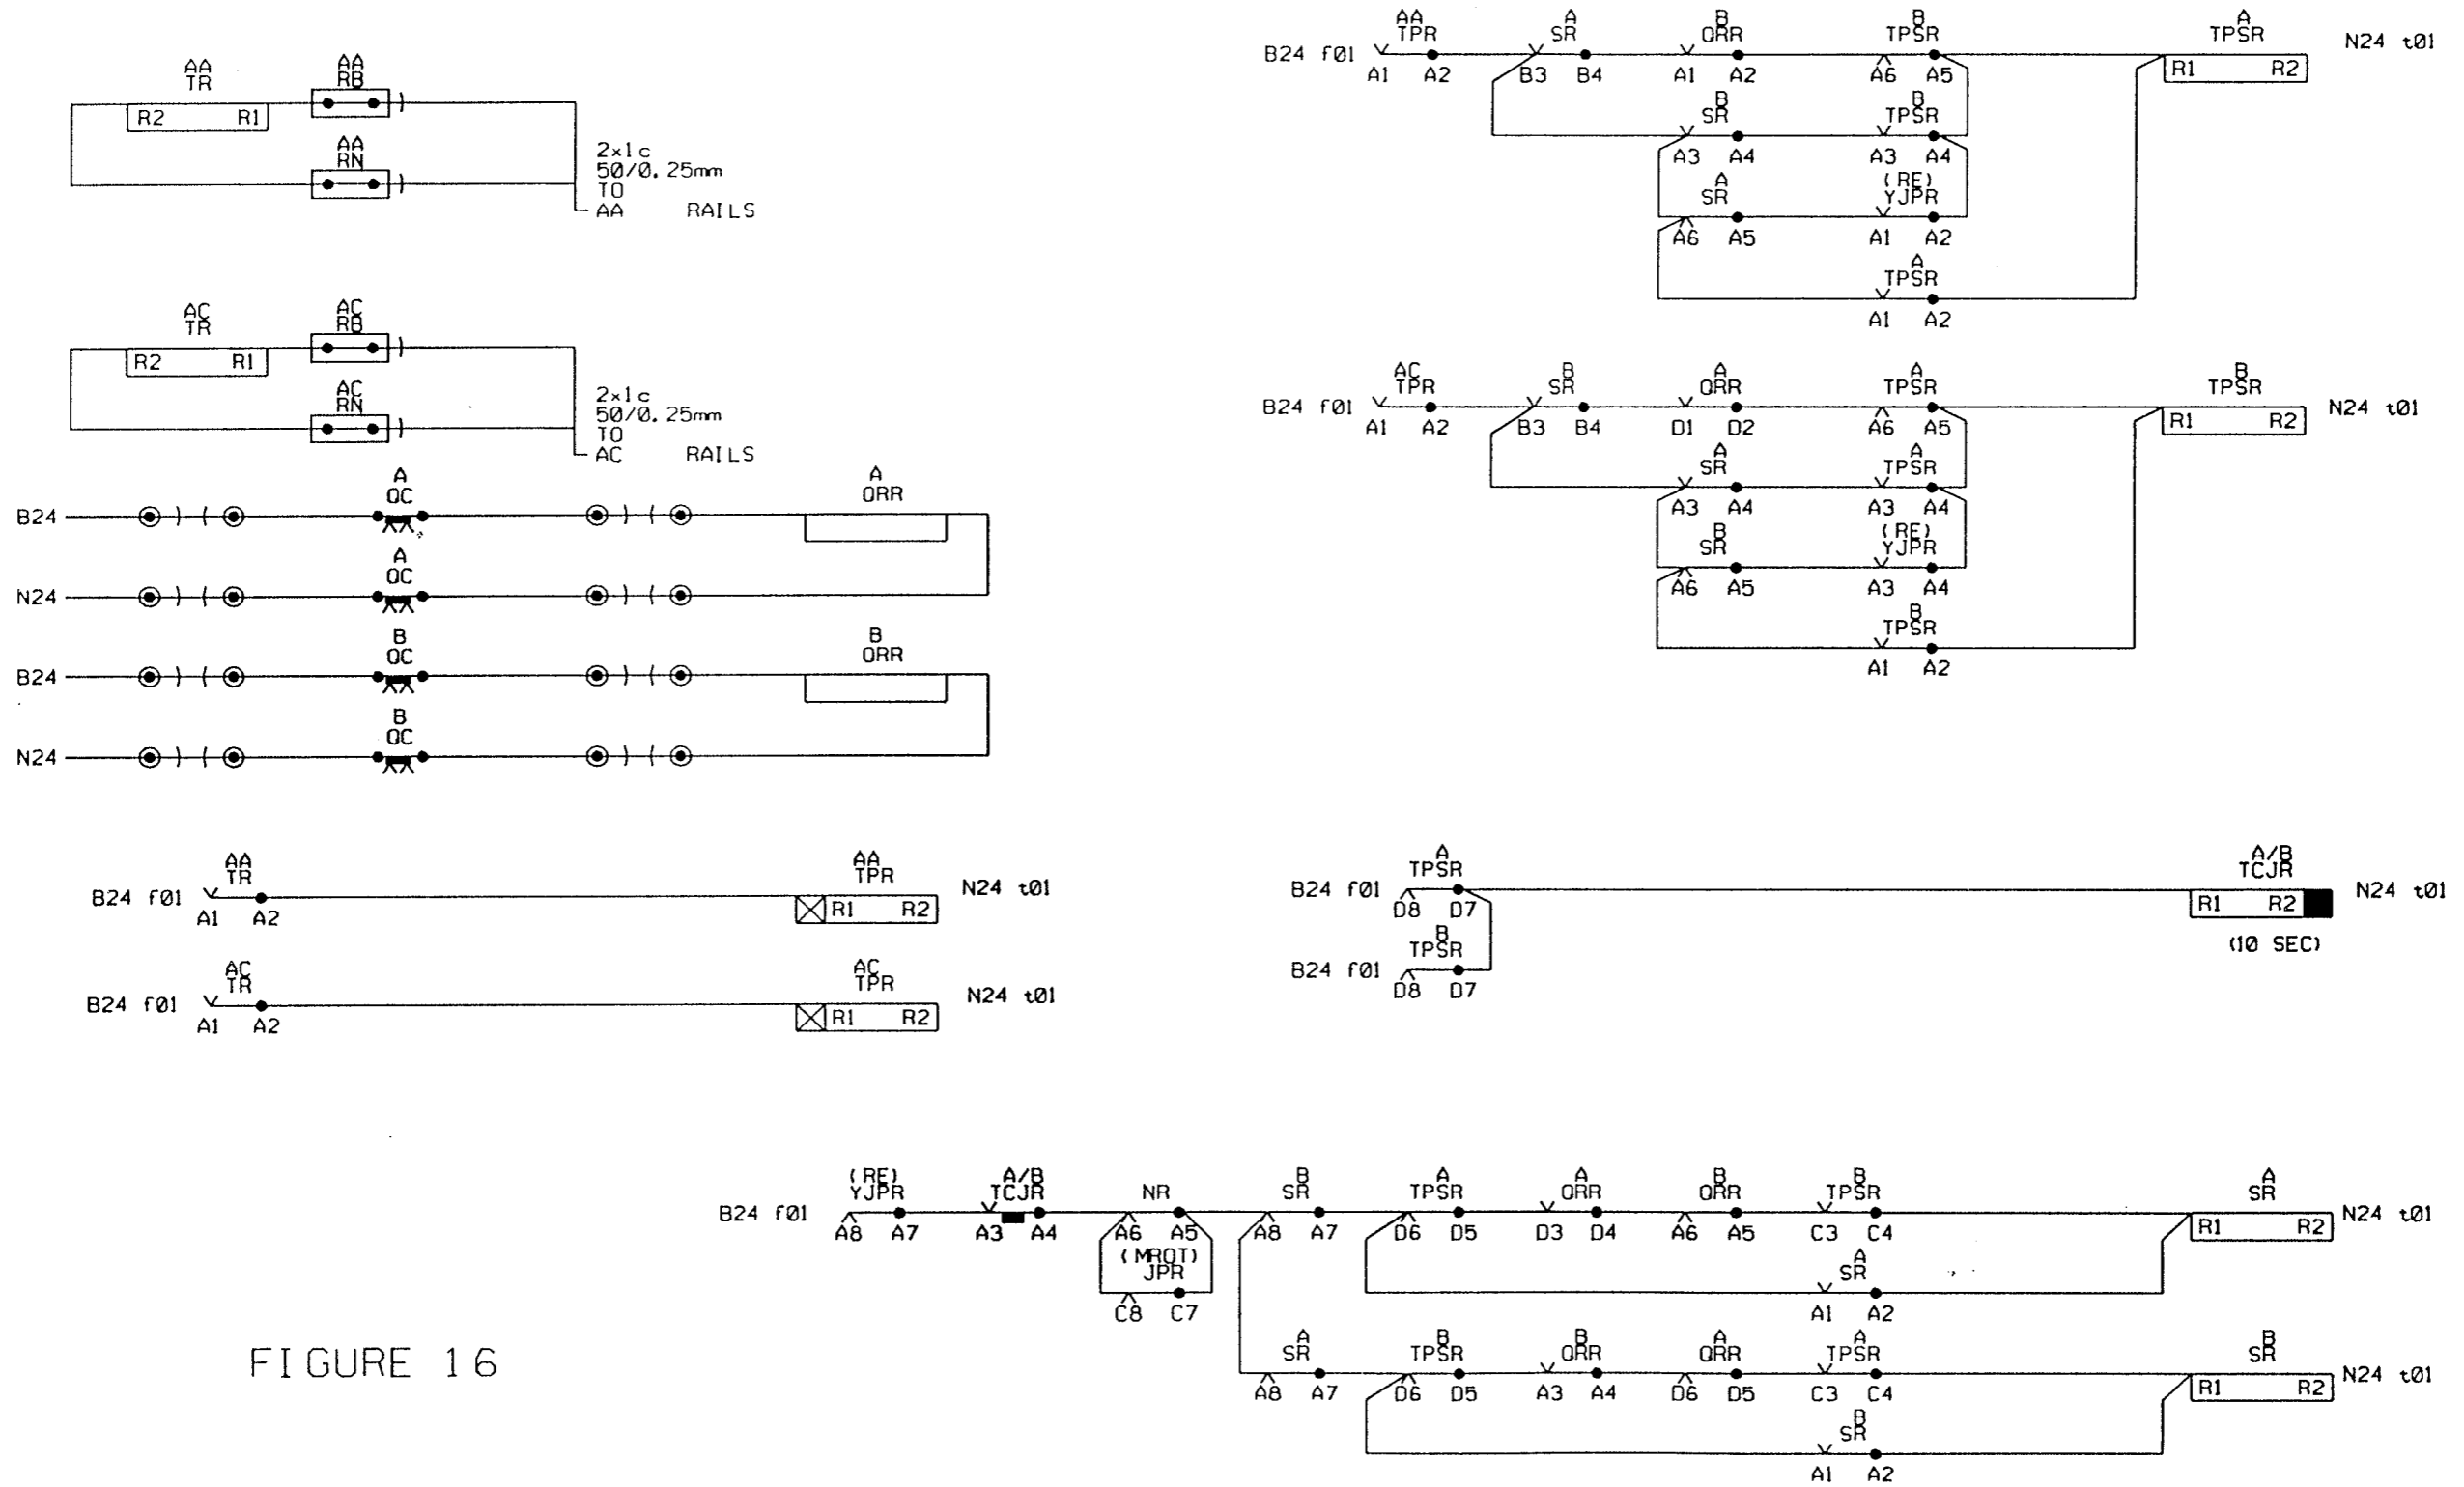

FIGURE 16
When AA track circuit becomes occupied it causes the following relays to de-energise AATR, AATPR and ATPSR. The de-energised ATPSR will energise A/B TCJR (figure 16).
The front of the train strikes A treadle energising A QRR and A SR (Figure 16). It should be pointed out that the direction of initiation is determined by whichever SR is energised. It then strikes B treadle energising B QRR which de-energises the (DN)(DWL)R replacing the DN(DWL) Signal to a flashing red (Figures 18 and 21). The train occupies AC track circuit, this in turn de-energises B TPSR.
Occupying AC track circuit means AC TR and AC TPR de-energise (Figure 16). As the rear of the train clears the crossing and clears AA track circuit it allows A TPSR to energise via the following :-
and A TPSR Energised (Figure 16).
ASR is de-energised indirectly when B TPSR energises because a back contact of this relay is in the pick path of A/B TCJR. A/B TCJR de-energises and this "breaks" the feed to ASR (FIGURE 16).
Assume AA track circuit has failed and shows occupied. AA TR & AA TPR will de-energise which will in turn de-energise A TPSR (Figure 16). A TPSR de-energised will de-energise the (CON)SR (Figure 17) and disconnect the feed to the (DWL)YJR.